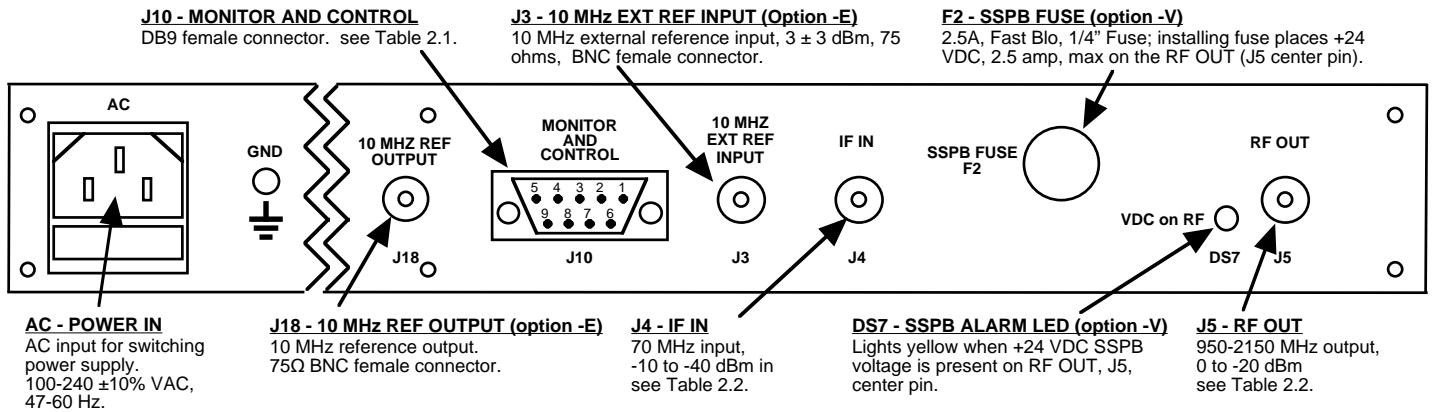

FIGURE 2.1 2015-12 Rear Panel I/O's
2.2 Rear Panel Input/Output Signals - Figure 2.1 shows the input and output connectors on the rear panel.
1. Connect a -10 dBm to -40 dBm signal to IF In, J4 (Figure 2.1)
8. Option -V only - To insert SSPB +24 VDC on the RF center pin install 2.5A fast blo fuse in F2 and check that DS7 lights yellow (Figure 2.1)